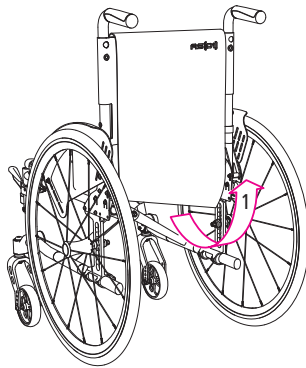

Fig. 28
3. To fold the wheelchair, if necessary, loosen the flap of the backrest under the seat (1, Fig. 28).